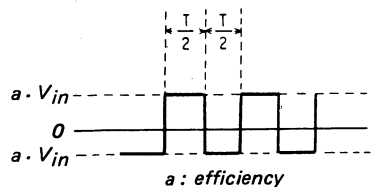

Fig. 15
- The secondary voltage waveform of the high-frequency transformer shown in Fig. 15 is obtained by switching S1 and S4 alternately, and S2 and S3 alternately. The dc voltage is consequently converted into square waves.